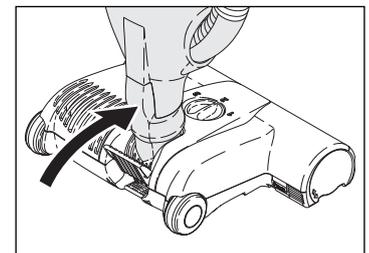
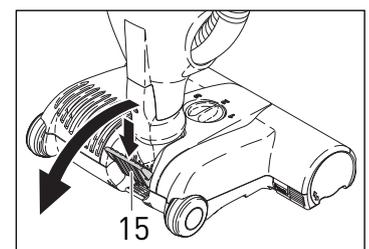
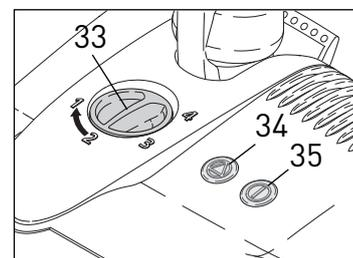

Figure 6
Figure 7
Figure 11
**A.** When the power head is switched on with the swivel neck (figure 6) in the upright locked position, the brush roller will not spin and no lights will show. To release the power head from the upright locked position, press down on the foot pedal (15, figure 7) and lower the swivel neck into the normal operating position. If the brush roller does not start, push the on/off button (35, figure 11). The brush roller will then start spinning and the on/off light on the power head will illuminate in green. If the on/off button is OFF, the light will illuminate yellow. The handle can be lowered to a horizontal position useful for vacuuming under beds.
**B.** To clean delicate or hard floor surfaces with straight suction only, the power head is equipped with an on/off switch (35, figure 11). When this switch is used to turn off the brush roller, the green light will change to yellow, indicating to the user that the brush roller is not turning. Pushing the button again will turn on the brush roller and the light will turn green.
**NOTE: The brush roller is off and stopped only when the machine is in an upright position and the handle is completely locked in place, or when the hose handle is removed from the side of the vacuum. If you have the machine at an angle, the brush roller will spin. Leaving the machine in a stationary position for an extended period of time while the brush roller is spinning may cause damage to your floor or carpet. You may also switch off the brush roller by pressing the on/off switch (35, figure 11) on the top of the power head.**
## Brush Obstruction Light & Auto Shut Off – Figure 11
## The Brush Height Adjustment Feature - Figure 11
## Indicator Lights - Figure 11
By pushing the foot pedal (figure 7) and lowering the handle, you activate the power head and the brush begins spinning. Failure to use the foot pedal will cause lasting damage to the machine. The electronic brush control constantly monitors the status of the brush, communicating the status through the lights on top.
(35, figure 11)
(34, figure 11)